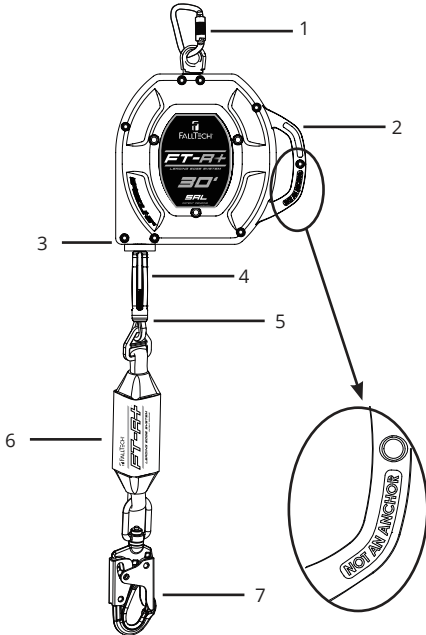

Figure 1 - About FallTech® FT-R+ Leading Edge SRL
As shown in Figure 1 below, the SRD has a glass reinforced nylon housing with an integrated handle that contains a lifeline composed of 7/32" (5.6mm) diameter galvanized steel wire rope, wound onto a spring tensioned drum. The SRD's lifeline is equipped with a cable stop/handle assembly with a bumper, integrated tearaway Energy Absorber (EA), and a steel swivel snaphook. When the user is attached, the lifeline extends and retracts with user movement, automatically maintaining a taut lifeline. If a fall occurs, a centrifugal pawl system engages, stopping the lifeline payout. The tearaway EA deploys, gradually slowing and arresting the fall.